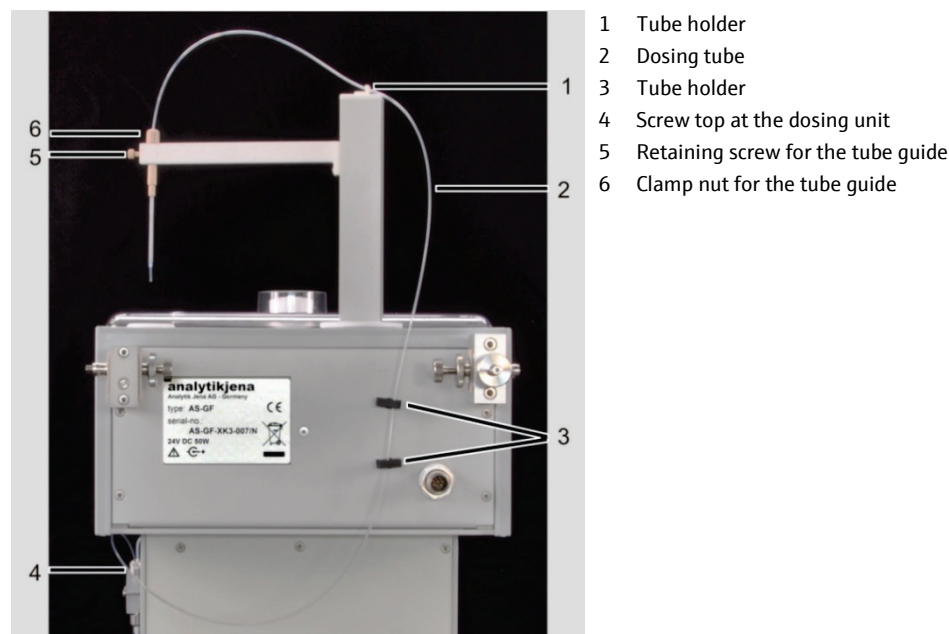

Fig. 69 Dosing tube on the AS-GF
1. Loosen the clamp nut at the tube guide (item 6 in Fig. 69) and remove the dosing tube by pulling upwards.
1. Loosen the clamp nut at the tube guide (item 6 in Fig. 69) and pull out the tube. Remove the tube from the tube holders at the autosampler arm and the back of the autosampler (items 1 and 3 in Fig. 69).
2. Detach the screw top from the T valve of the dosing unit (item 4 in Fig. 69).